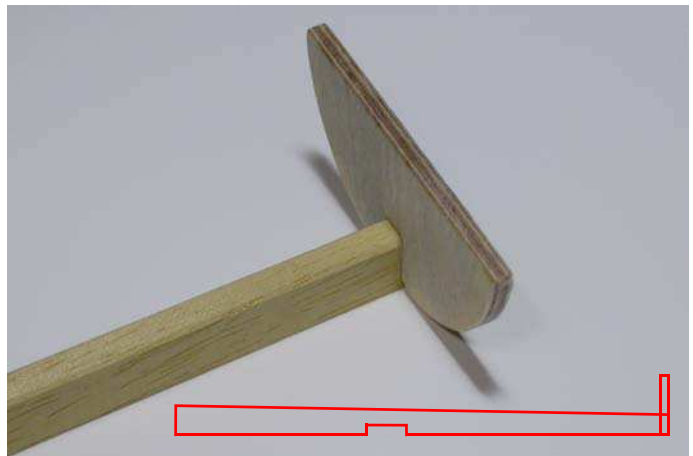

Fig.69: Rear frame in position.
- keep the shaped strip with the hook support downwards and, using some cyano, glue the rear frame “OPSB” to the thinner side of the strip (see figure 69); i